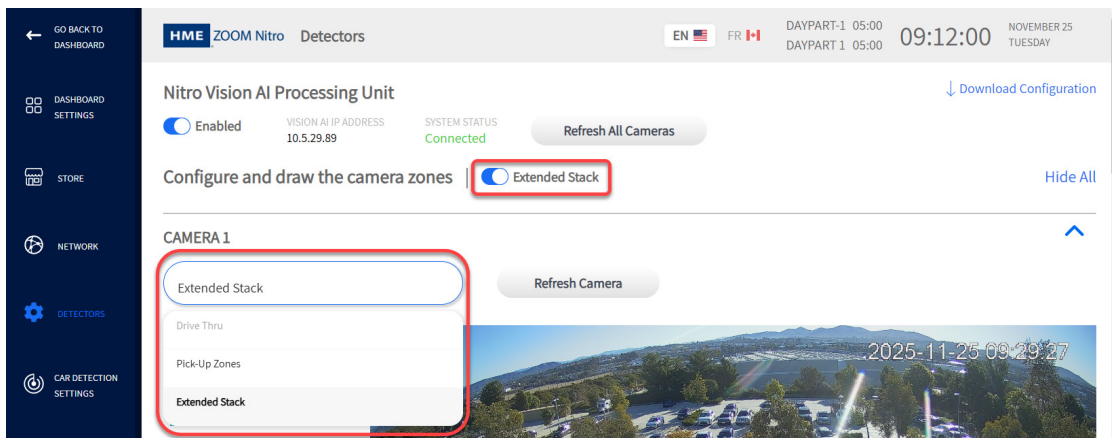

Fig. 32
16. Fig. 32 shows the CAMERA 1 drop-down list when the Extended Stack is enabled (the Extended Stack option does not appear in the drop-down list if the toggle is disabled). While Extended Stack requires a dedicated camera, it must be used in conjunction with another Drive-Thru camera (i.e., it does not function independently).